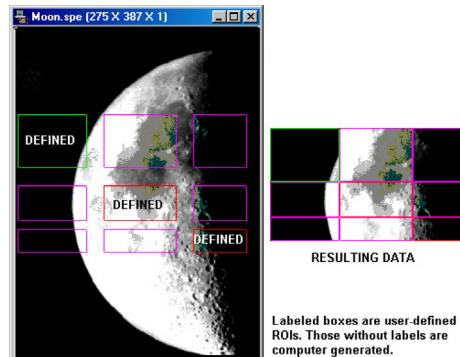

Figure 245. WinX/32 Side-Effect ROIs
**Note:** LightField version 3.0 SPE files are more complex than WinX/32 version 2.x SPE files. The LightField converter allows you to view the data in LightField. File information, however, will be limited and multiple ROIs will be displayed using the WinX/32 side-effect ROIs (*see Figure 245*). Converted data can be exported but it cannot be used in post-processes.